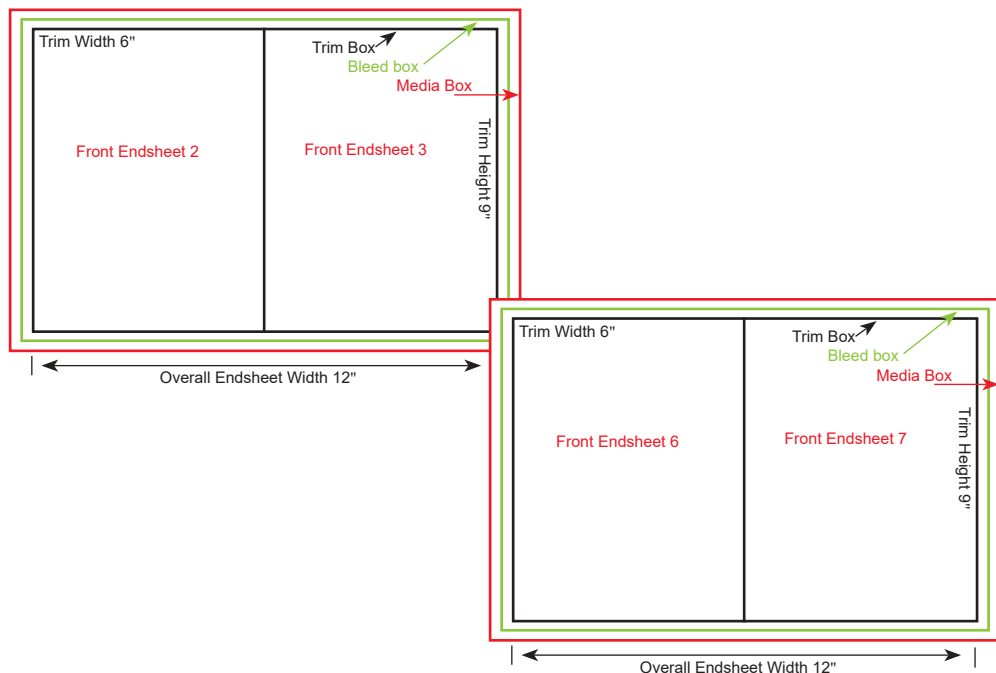

Figure 8
- File spreads must be setup in Landscape. (See Figure 8)
- PDF Trim Box must be to the same height trim measurements as the text pages. The trim width will be two times the width of the text trim measurements. (See Figure 8)
- Any bleed elements must extend 1/8" past the trim box. (See Figure 8)
- Media box must be set at least 1/4" larger than the trim box. (See Figure 8)